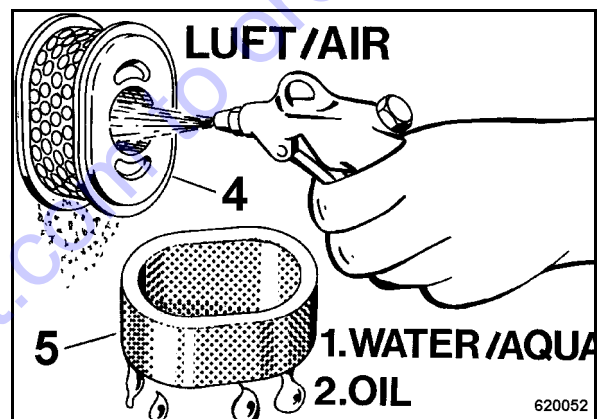

Fig. 45
- Clean the paper insert (4) (Fig. 45) carefully by light banging or blow it carefully out from inside to outside with dry, clean compressed air (max. 2 bar).
- Clean the foam insert (5) in warm soapy water, rinse it and let it dry thoroughly.